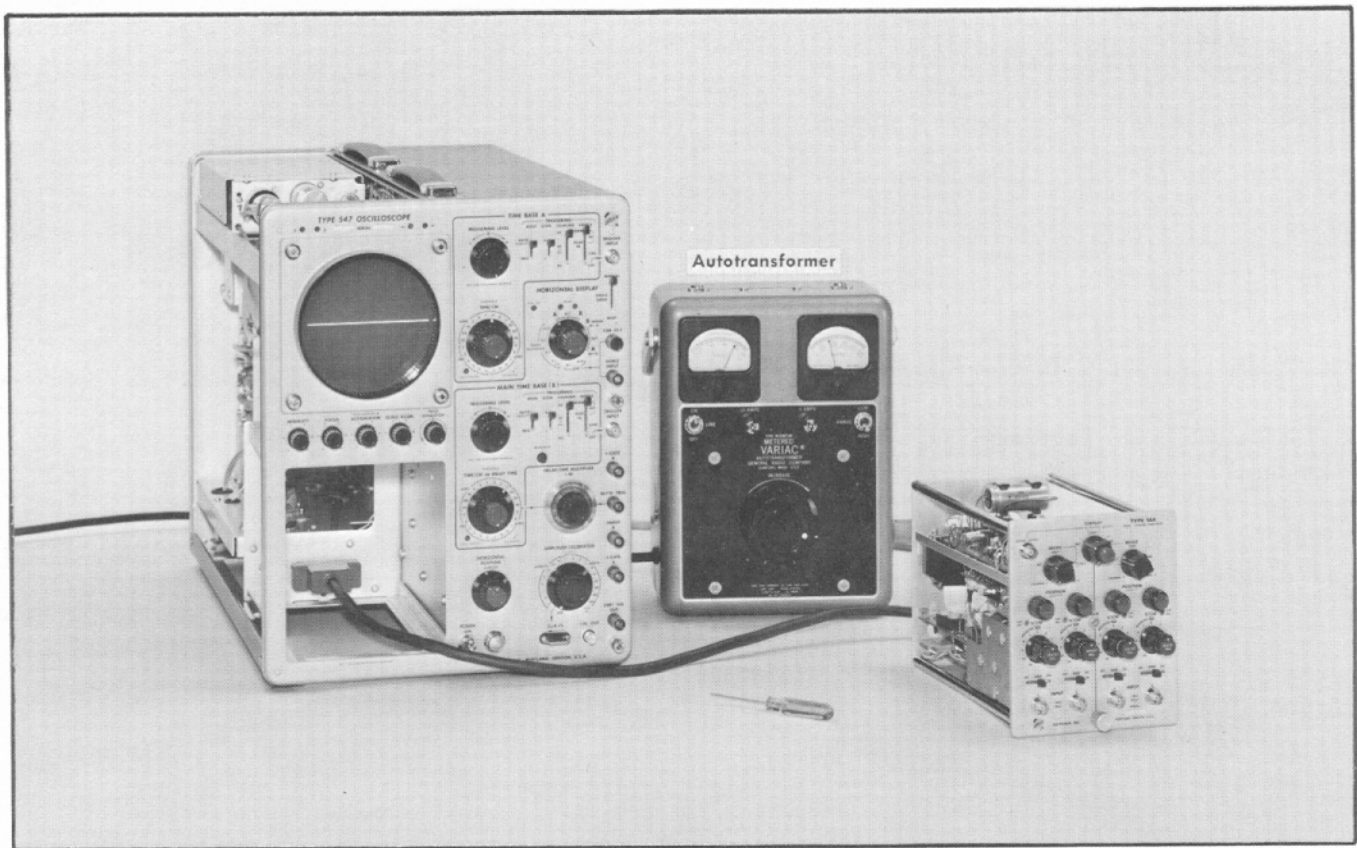

Fig. 7-7. Test equipment setup for steps 3 through 6.
- a. Test equipment is shown in Fig. 7-7.
a. Test equipment setup is the same as shown in Fig. 7-7.
- a. Test equipment setup is the same as shown in Fig. 7-7.